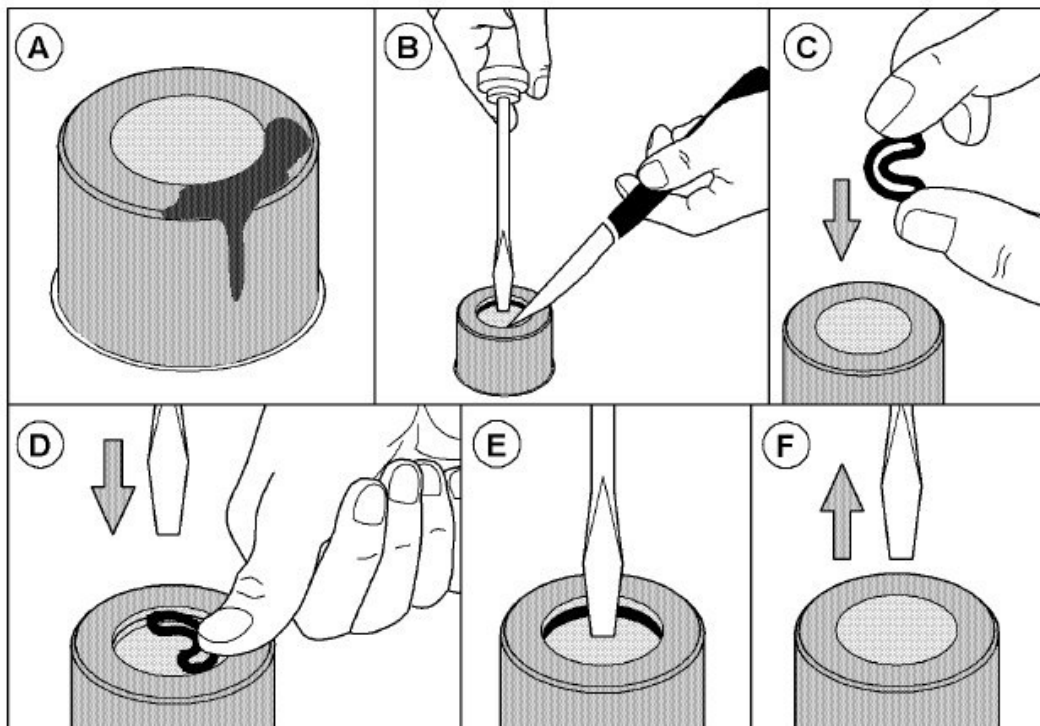

Figure 5: Replace of seal ring
- Replace the seal rings → please see figure 5